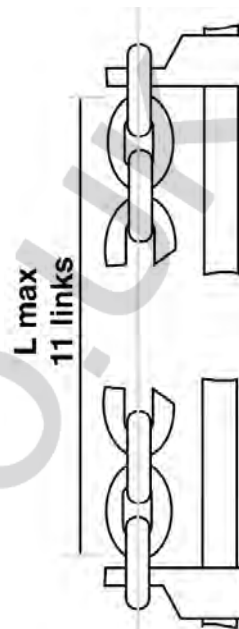
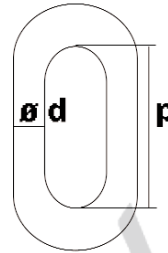

Figure 601
Figure 602
- 2) Count 11 links(Figure 601) and mark them.
- 2) Take measurements of p (Figure 601), d4, and d5 (Figure 602).